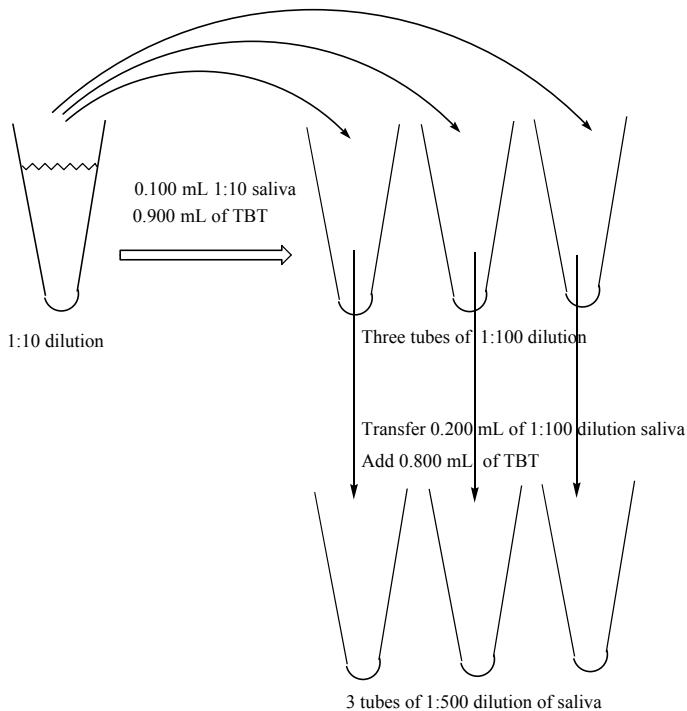

Figure 11. Dilution scheme for 1:100 and 1:500 dilutions
5. Make a 1:100 dilution by adding 0.100 mL of the 1:10 dilution into 0.900 mL of TBT buffer. Mix well by capping the tube and inverting it several times. Repeat this twice so that you have 3 different 1:100 dilutions. Use a different pipet tip each time. See Figure 11 below for the diagram.
6. Make a 1:500 dilution by taking 0.200 mL of one of the 1:100 dilutions and adding 0.800 mL of TBT buffer. Mix well by capping the tube and inverting it several times. Repeat this twice so that you have 3 different 1:500 dilutions. Use a different pipet tip each time. See Figure 11 above.